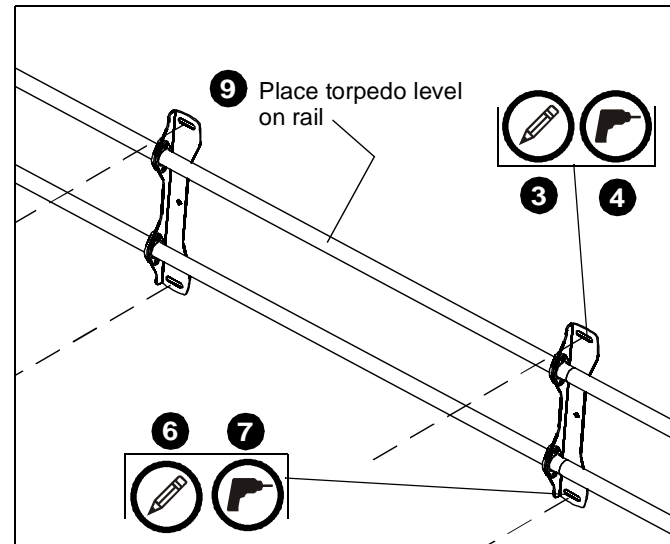

Figure 6
5. Use fasteners appropriate for the building materials to attach the middle bracket to the wall through the upper mounting hole. (See Figure 6)
6. Mark the attachment point for the lower mounting slot. (See Figure 6)
7. Drill pilot hole at marking for lower mounting hole. (See Figure 6)
8. Use fasteners appropriate for the building materials to attach the middle bracket to the wall through the lower mounting hole. (See Figure 6)
10. Attach additional brackets to the wall through the upper and lower mounting slots. (See Figure 6)